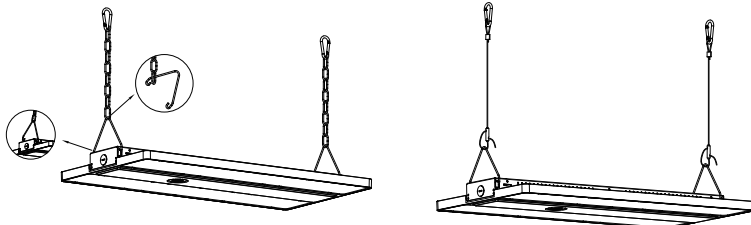

Figure 1
- Step 1. Hook up the chain; (Figure 1)
- Step 2. Connect the chain with fixture; (Figure 1)
- Step 3. Fix the chain on the rail, adjust the chain length as per need; (Figure 1)